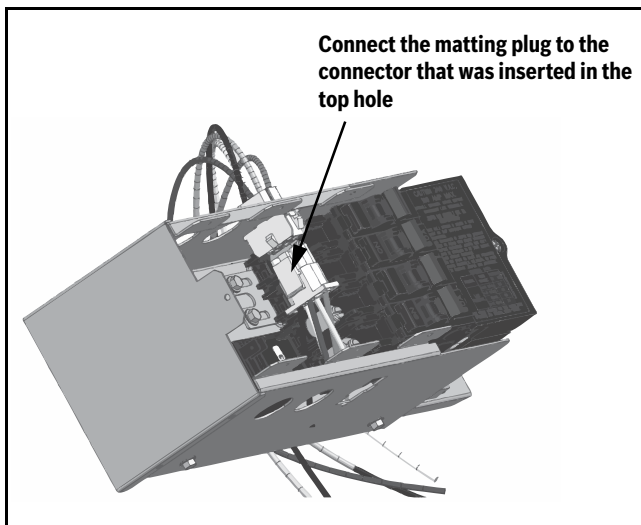

Fig. 21 Connect the Matting Connectors
2. Connect the matting plug to the connector that was inserted in the top hole of the e-heat control box. (→Refer to Fig. 21.)